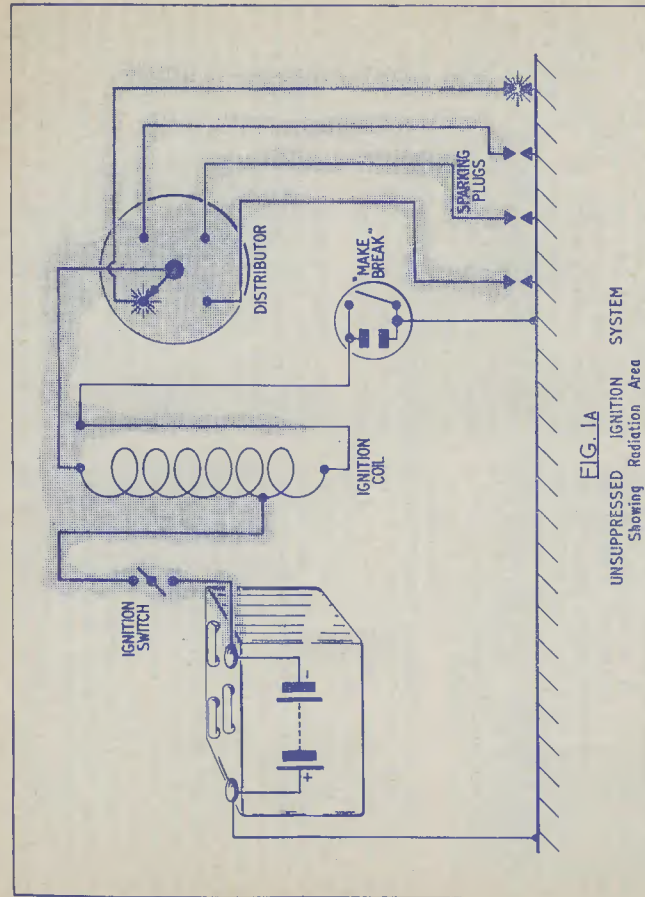
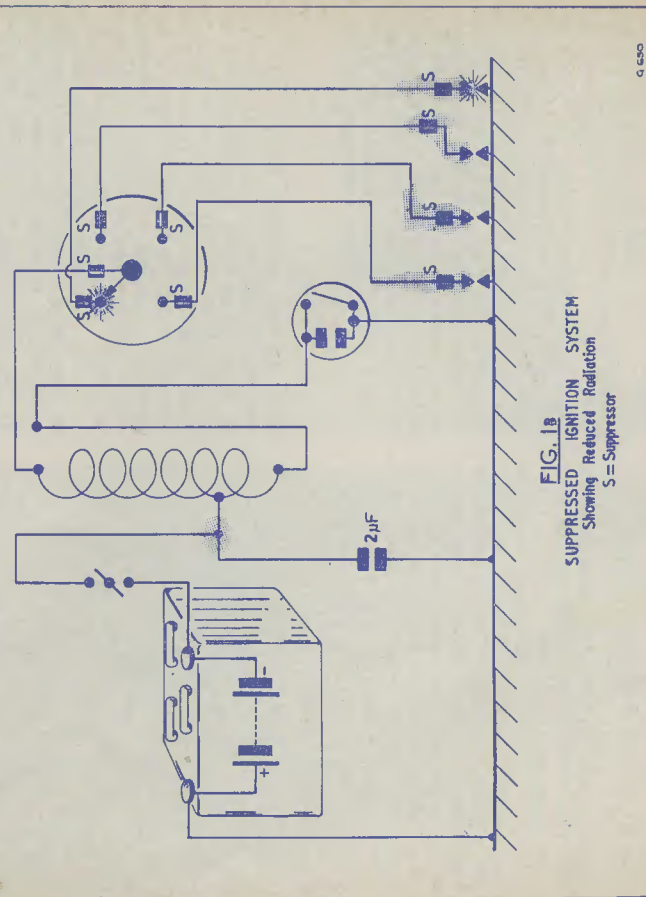

FIG. 1A
FIG. 1B
(1) The battery, which is the source of supply for all electrical equipment when the engine is not running. In addition to the usual 6 or 12 volt types on private cars and small vans there is a 24 volt type to be found on heavy lorries; the capacity varying between 25 and 125 ampere hours.
(2) The dynamo, which is driven by the engine and charges the battery, and which supplies current for a number of items of equipment. As the engine speed varies and the load on the battery varies from time to time it is necessary to have some form of voltage control or regulator for keeping the voltage constant.
(3) The voltage regulator, which attends to the automatic switching on and off of the dynamo as required. This is necessary in order that the battery, when fully charged by the dynamo, does not discharge back into the dynamo when the latter is running at a low speed and thereby giving an output below the voltage of the battery. A further function of the regulator is to keep the dynamo voltage at the correct level for all the equipment should the battery be undercharged.
(4) The ignition system is the last of this group and, of course, takes care of the generation and regulation of ignition sparks to the sparking plugs. Consisting, as it does, of an ignition coil, contact breaker, distributor and sparking plugs, there is plenty of need for suppression here. It should be noted that the battery supplies low tension through a contact breaker (actuated by the rotation of the engine) to a coil in the form of an auto-transformer which steps it up to the region of 15-20 thousand volts, as many unwary mechanics have found to their cost. The writer does not think any deaths have been recorded, but to some people the shock is sufficiently severe to make it undesirable to repeat the dose. Fig. 1A shows areas of the system so far discussed where radiation can be produced, and Fig. 1B the same after the addition of suppressor devices.